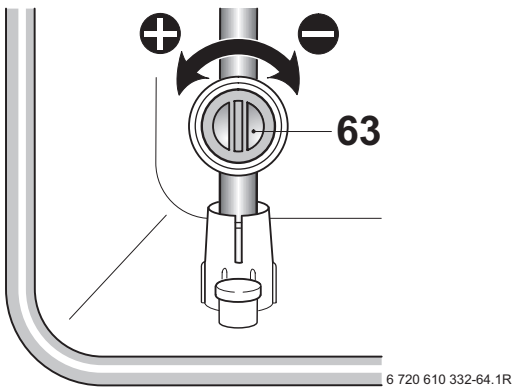

Fig. 45
- ▶ Adjust the gas flow restrictor (63) to obtain the CO₂ level given in Table 14. Refer to fig. 45.